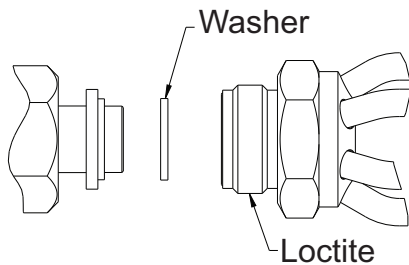

Fig. 1 - TXV Thread (Sealer) Location
- a. The TXV attaches to the distributor with 13/16" chatleff nut. The threads contain Loctite anti-seize that can be reused. (See Fig. 1)
2. Remove and discard the indoor piston, being careful not to damage the piston body assembly or the sealing of the Teflon retainer washer. Replace retainer washer if damaged. (See Fig. 1)